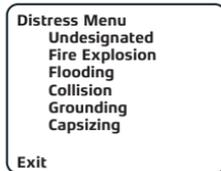

Figure 10
2. Briefly press the **Distress** button. The display shows the 'Distress' Menu list (fig 10).